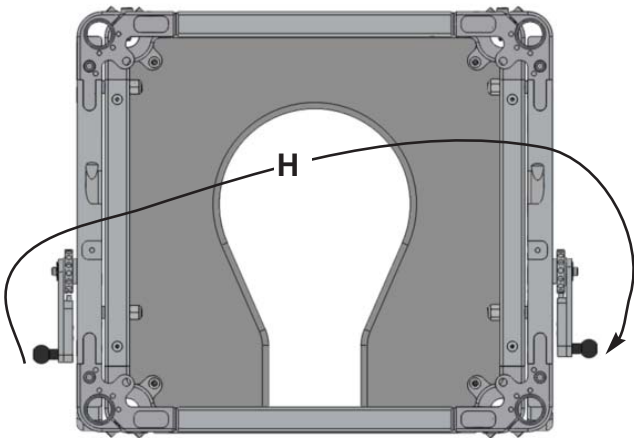

Figure 4
**H** Adjustments to the "Tilt Assembly" need to be made as follows: Remove the "crank handle" by removing the socket screw with an 1/8" Allen wrench. Remove the cap from the opposite side of the frame, again using an 1/8" Allen wrench, and install it on this side. Reinstall the crank handle on the opposite side of the frame (Refer to Figure 4)